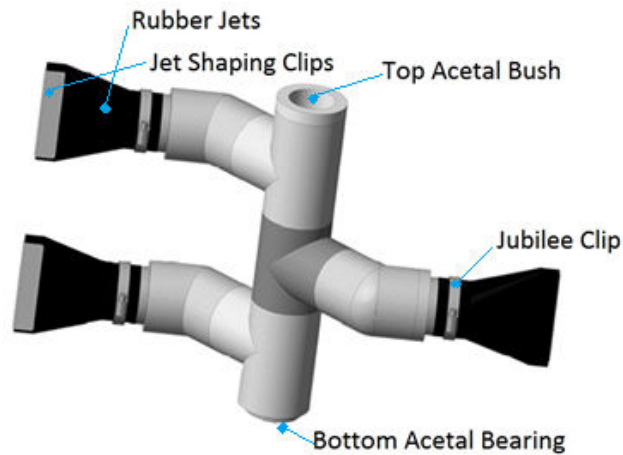

Figure 4
**NB:** the Jet Shaping Clip in the end of the Rubber Jet must be positioned as shown in Fig 4
#### **V. Bearing replacement (see fig 4 for parts identification)**